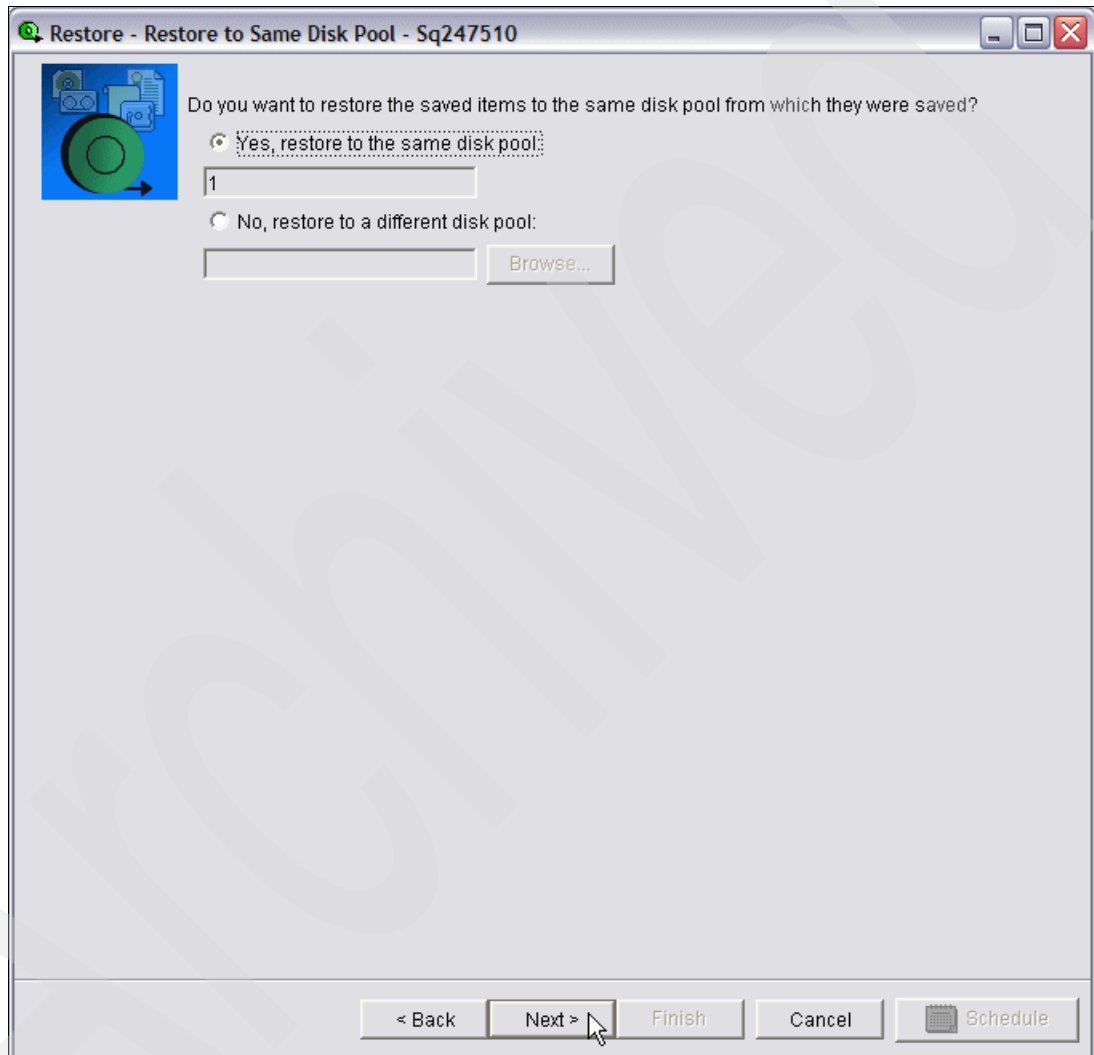

Figure 6-101 Restore - Restore to Same Disk Pool
7. The next wizard window (Figure 6-101) allows you to specify which auxiliary storage pool (ASP) you want to restore into. If you are not using user-defined storage pools, there is only one system storage pool (*system ASP* or *ASPI*) on the system. If you have additional ASPs defined, you can restore back into the same pool that the object was saved from or into a separate ASP.